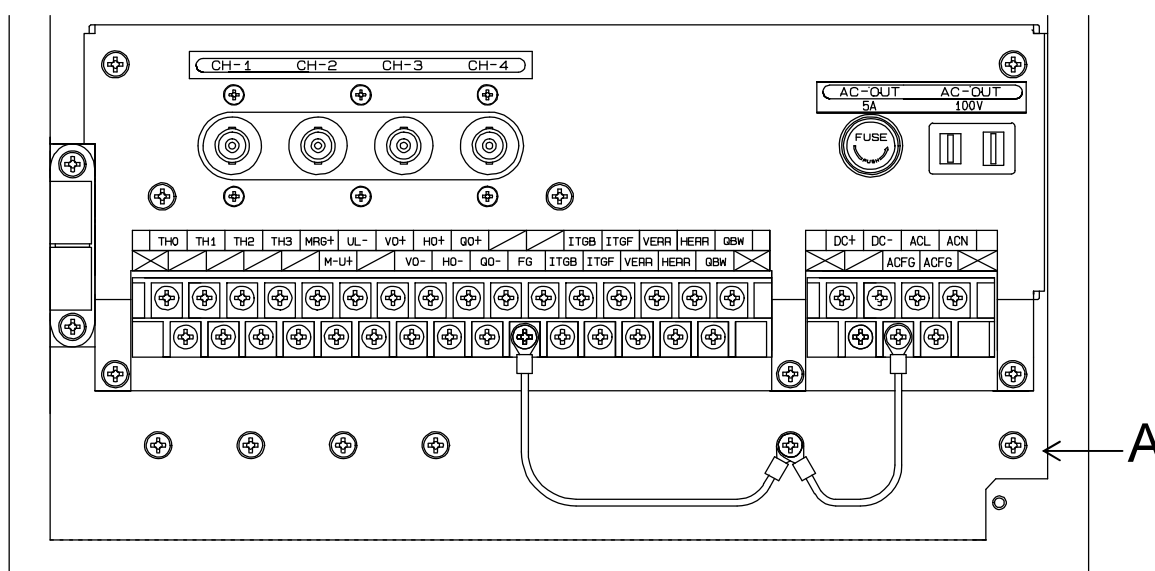

Fig. 5-1 External connection terminals of the main unit (100 VAC power supply)
- 2) For wiring between the main unit and external equipment, see Figs. 5-1 and 5-2 and Table 5-1.